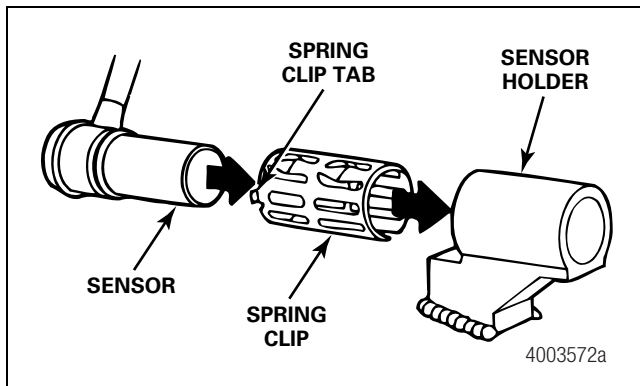

Figure A-1
3. Push the spring clip into the sensor holder from the inboard side until the spring clip tabs are against the sensor holder. Push the sensor into the spring clip as far as possible. Figure A-1.